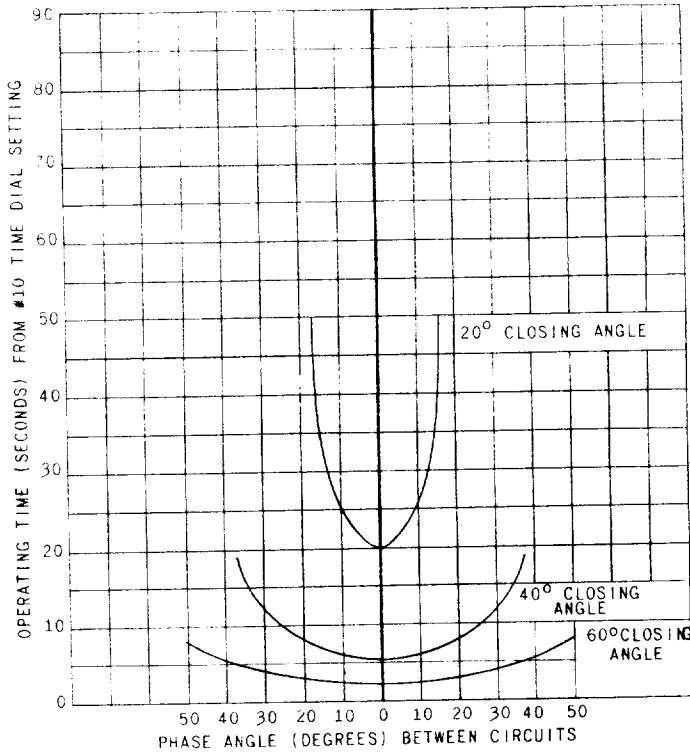

Fig. 4 (K-6400151-3) Typical Time-Phase Angle Curve with Rated Voltage Relay Type IJS52E1
Typical time vs phase-angle curves are shown in Figs. 4 and 5 for 60 cycle relays. The Model 12IJS52E1 relay has a standard closing angle setting of 20 degrees and has its drag magnet adjusted to provide 20 seconds time delay from No. 10 time-dial setting for voltages in phase. The closing angle on this relay can be adjusted to angles greater than 20 degrees but with a corresponding decrease in time delay as shown in Fig. 4. The approximate reset time with both coils de-energized is about 40 seconds. The approximate reset time with one coil energized at rated voltage varies from 3 seconds on the 20° setting to 6 seconds on the 60° setting with #10 T.D.S.
3. With both coils connected to a 115 volt source with zero displacement, check that pick up time agrees with values given in Figs. 4 or 5 plus or minus 10 percent.